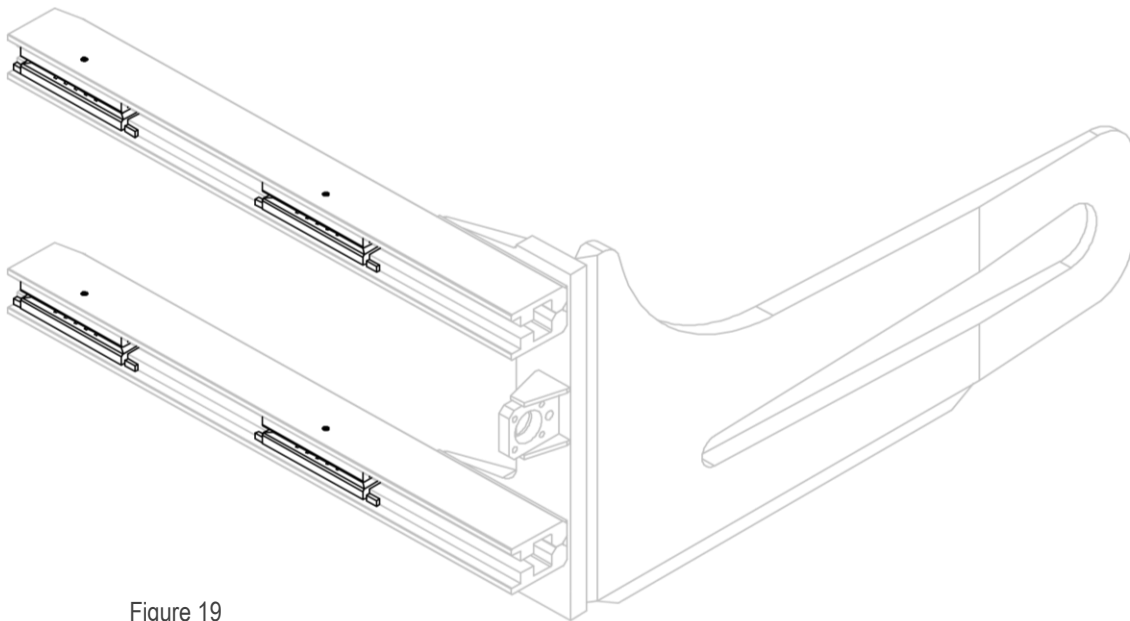
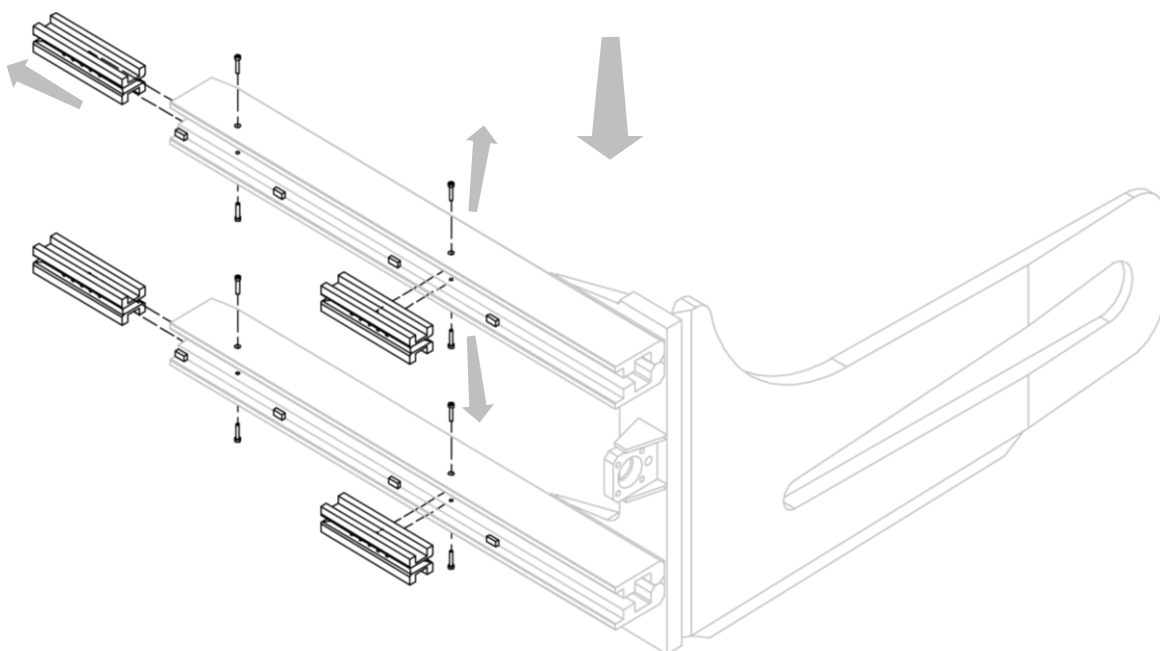

Figure 19
Figure 20
2. Remove the slide bushes from their housings after removing the corresponding fastening bolts (see *Figure 19* and *Figure 20*).